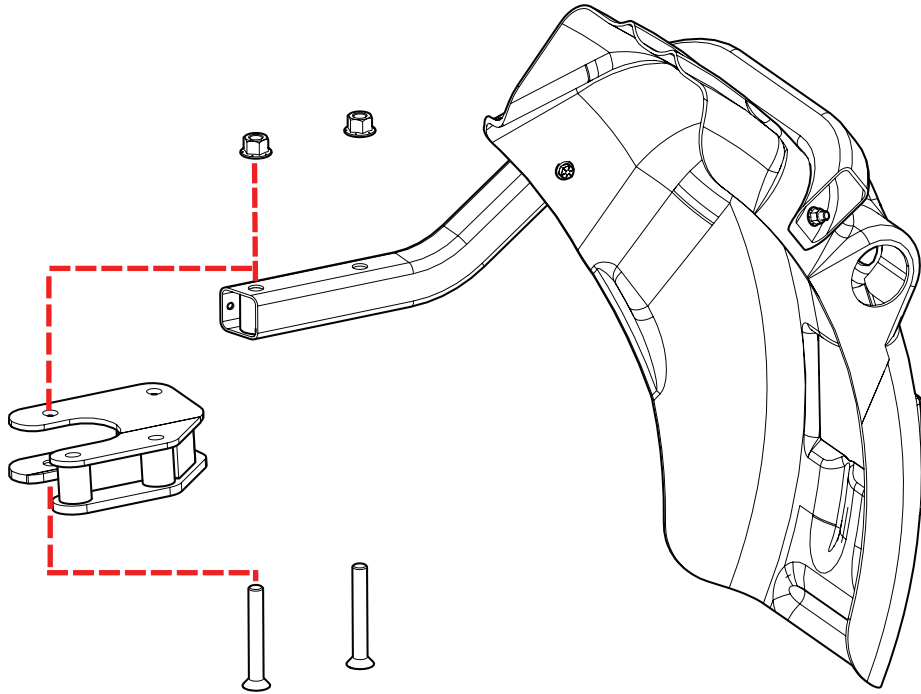

Figure 4
7. Use new bolts (PN 1244626, quantity 2) and nuts (PN 110311A, quantity 2) to secure the fender tube/ fender assembly onto the new bracket (Figure 4).